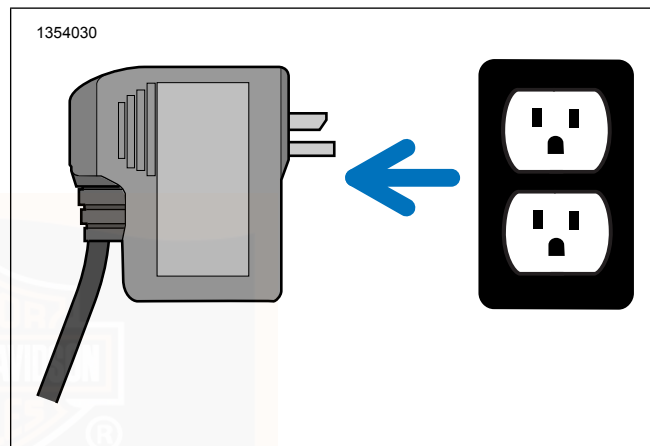

Figure 15. EVSE Charge Module - Un-Plug
7. Unplug CHARGE MODULE from wall outlet. See Figure 15.